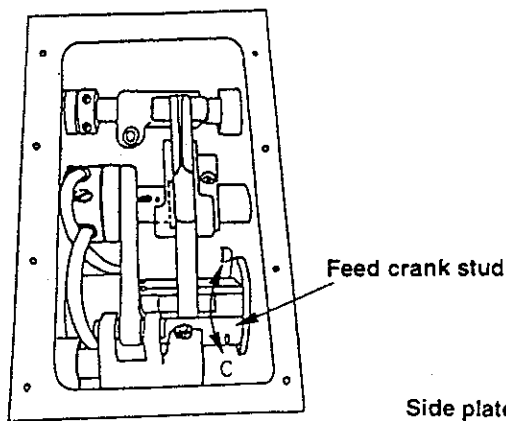
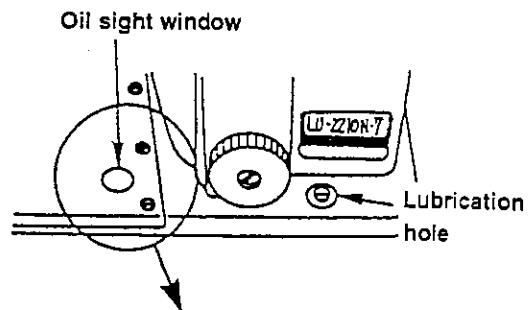
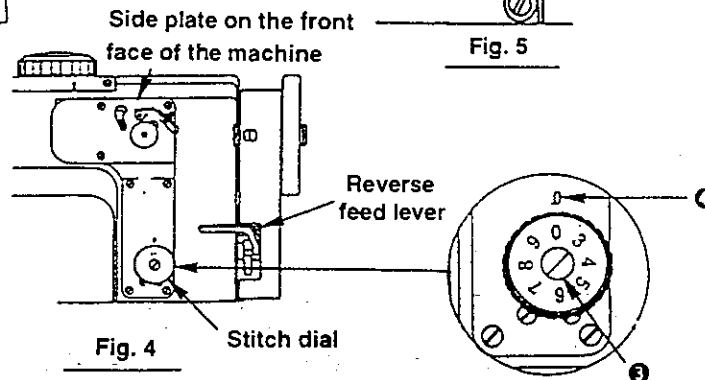

Fig. 3
Fig. 5
Fig. 4
- Tilt the feed crank stud in the direction C or D until the position where the feed amount of the feed dog becomes zero (0). Tighten screw ② at this position. (Fig. 3)
- Align marking ④ of the side plate on the front face of the machine with "0" on the scale of the stitch dial. (Fig. 4)
<ol style="list-style-type: none"> 1. Turn the stitch dial clockwise while moving the reverse feed lever up and down, until the feed adjusting pin meets section A of the feed crank stud. At this time, the feed adjusting pin and the feed crank stud cannot be observed. Performing the adjustment mentioned above, however, allows the operator to feel by hand that the reverse feed lever will no longer come down. 2. Check that the marking (chamfered) of the feed adjusting eccentric pin faces in the direction same as the slot in the feed adjustment converting arm. (Fig. 2) 3. Loosen drain cock ❶, and expel oil from the drain opening. (Fig. 2) 4. Remove the top cover of the bed. (Fig. 2) 5. Loosen screw ❷ in the feed adjustment converting arm. (Fig. 2) 6. Turn the handwheel in the normal direction of rotation to adjust the feed converting unit so that the feed amount of the feed dog is set to zero (0). (Fig. 3) 7. Tighten clamping screw ❷ in the feed adjustment converting arm. (Fig. 2) <p>(Caution) Tighten the screw with a tightening torque of 35 to 45 kgf.cm.</p> <ol style="list-style-type: none"> 8. Supply oil to the machine. (Fig. 5) 9. Loosen attaching screw ❸ of the stitch dial. (Fig. 4) 10. Align zero (0) on the scale of the stitch dial with marking ❹ on the side plate of the front face of the machine. (Fig. 4) 11. Tighten screw ❸ in stitch dial. (Fig. 4) 	<p>☆ The actual stitch length will greatly differ from the value set on the stitch dial.</p> <p>6' Tilt the feed converting unit in the direction of arrow C, and the feeding amount in the normal direction will increase. Tilt the unit in the direction of arrow D, and the feeding amount in the reverse direction will increase.</p> <p>8' Pour oil from the lubrication hole while checking the oil level through the oil sight window. The amount of oil is sufficient when level H is reached.</p> <p>11' At this time, take care not to allow the stitch dial to move to make the zero (0) on the scale of the dial shift from marking ❹ on the side plate.</p>